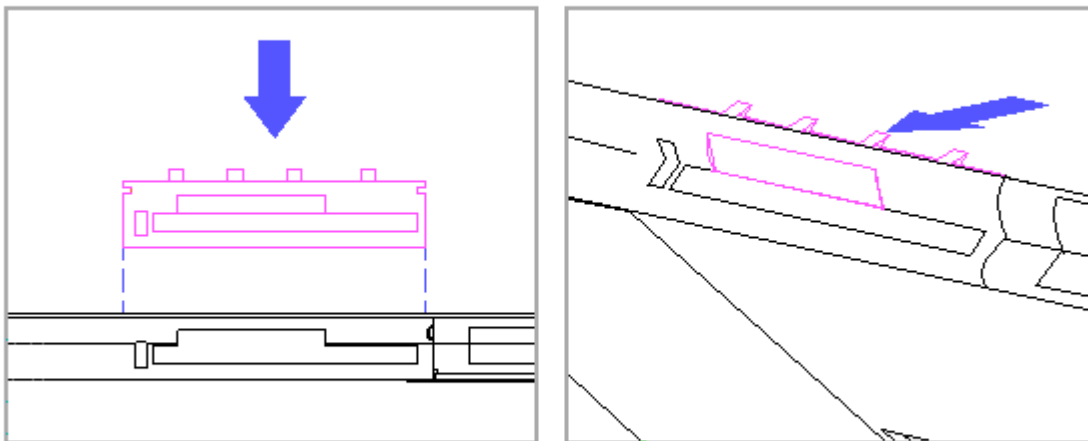

Figure 3-26. Installing the Diskette Drive Bezel
5. Install a diskette drive bezel by sliding it down into place, engaging its mounting tracks, and applying pressure toward the outside of the cover to snap it into place (Figure 3-26).